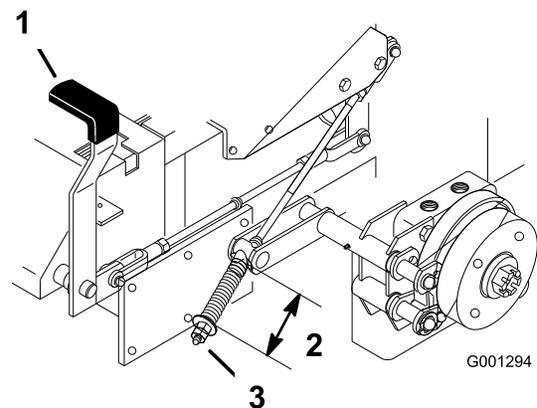

Figure 86
2. Measure the length of the spring (**Figure 86**).
3. If adjustment is necessary, disengage the parking brake, loosen the jam nut below the spring and adjust the nut directly below the spring (**Figure 86**).